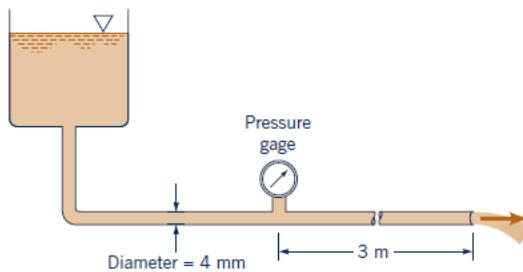

Figure P6.103
6.103. A simple flow system to be used for steady-flow tests consists of a constant head tank connected to a length of 4-mm diameter tubing as shown in Fig. P6.103. The liquid has a viscosity of 0.015 Ns/m^2 , a density of 1200 kg/m^3 , and discharges into the atmosphere with a mean velocity of 2 m/s. (a) Verify that the flow will be laminar. (b) The flow is fully developed in the last 3 m of the tube. What is the pressure at the pressure gage? (c) What is the magnitude of the wall shearing stress, τ_{rz} , in the fully developed region?